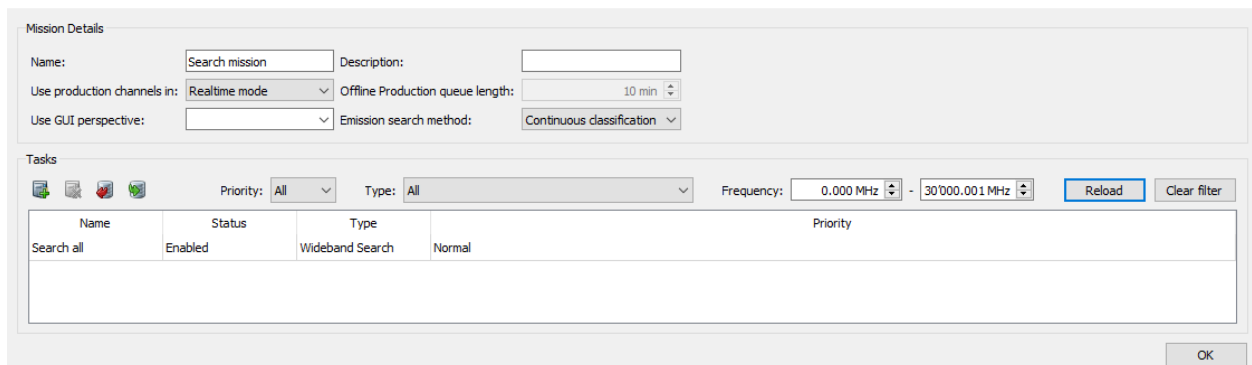

Figure 94.: Edit Mission Window - Mission Details
- If a GUI perspective was defined for this mission, it will be applied as soon as the mission is activated. If the mission is deactivated, the GUI perspective will be restored to the state before activating the mission. See also Figure 94 and Table 31.